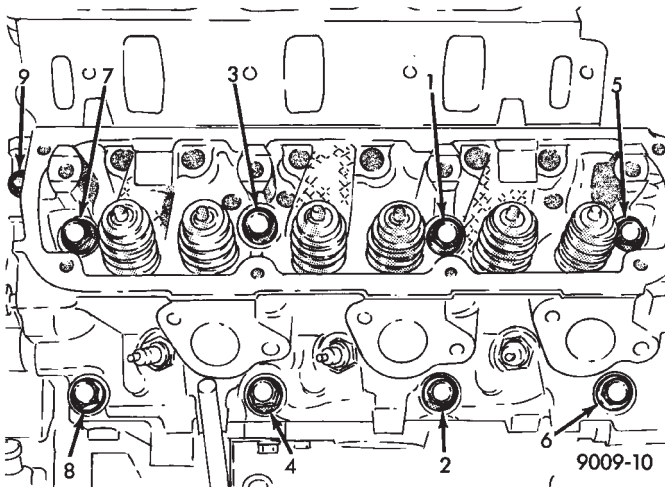

Fig. 7 Cylinder Head Bolts Location
(2) Disconnect coil wires, sending unit wire, heater hoses and by-pass hose.
(3) Remove closed ventilation system, evaporation control system and cylinder head covers.
(4) Remove exhaust manifolds.
(5) Remove rocker arm and shaft assemblies. Remove push rods and **identify to insure installation in original locations.**
(6) Remove the 9 head bolts from each cylinder head and remove cylinder heads (Fig. 7).